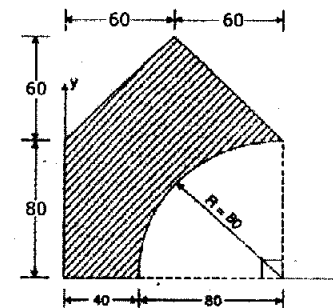

Figure 4
4. (a) Define Centroid, Centre of gravity, polar moment of inertia and radius of gyration. (4)
- (b) Determine the centroid of shaded area of figure 4 about the origin. (6)